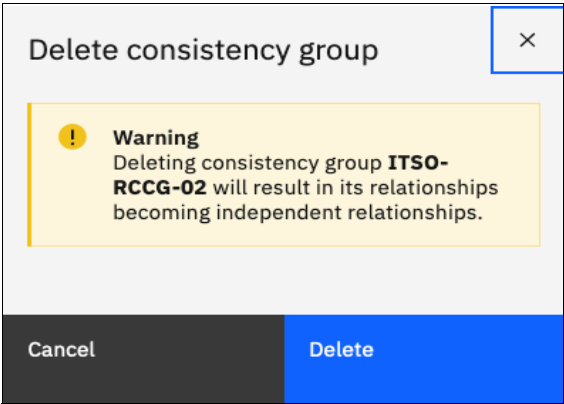

Figure 10-148 Confirmation of a consistency group deletion
3. A confirmation message is displayed, as shown in Figure 10-148. Click **Yes**.